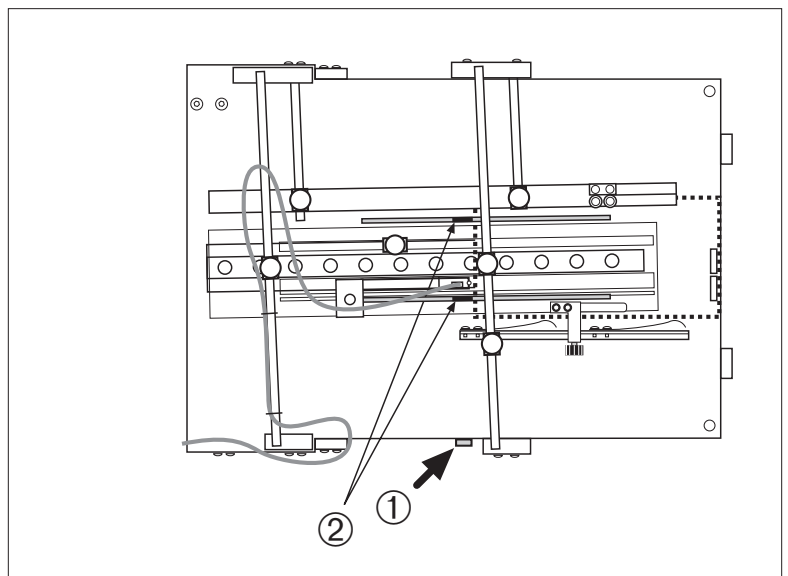
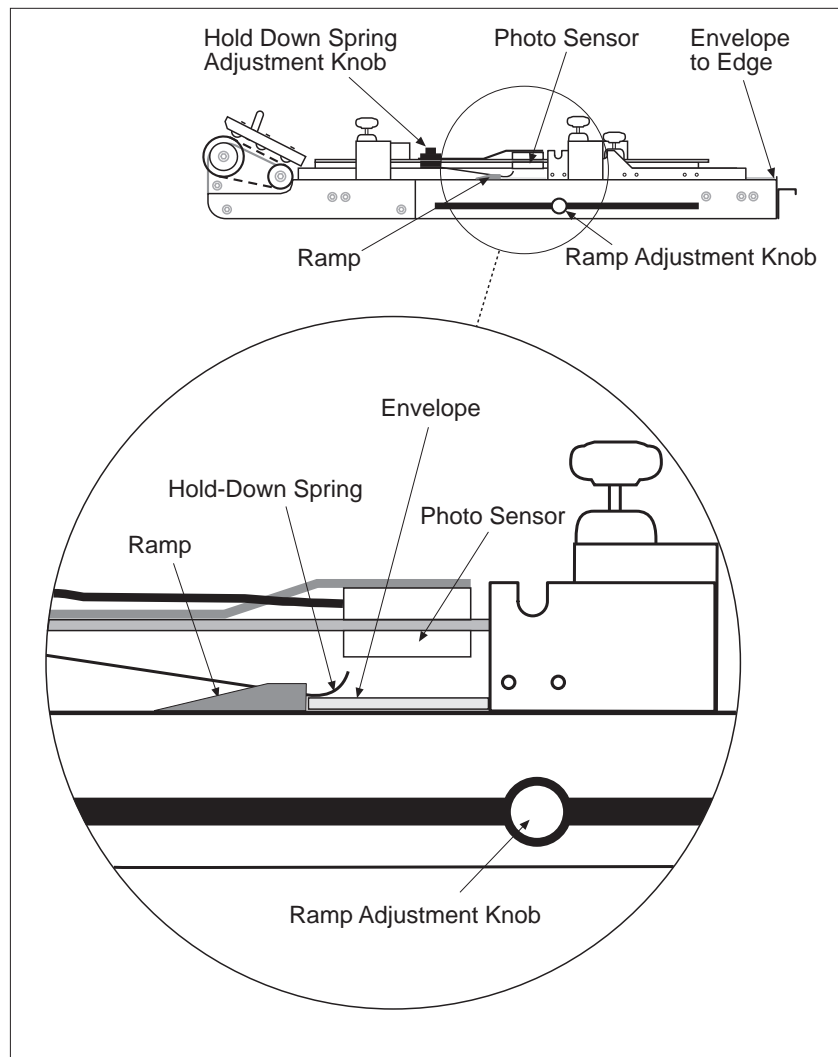

Figure 17B. Adjusting Ramps, Top View
Figure 18. Adjust the Hold-Down Springs
2. Loosen the ramp adjustment knobs for the backstop ramp. (located on either side of the transport table, Figure 17B, ①).
3. Slide the adjustment knobs to position the edge of the ramps just behind and barely touching the envelope. See Figure 17B, ② below and Figure 18 on the following page. Move the ramps simultaneously to achieve proper alignment.
2. Position each spring so that it is just past the edge of the envelope and ahead of the backstop ramp (Figure 18 detail).